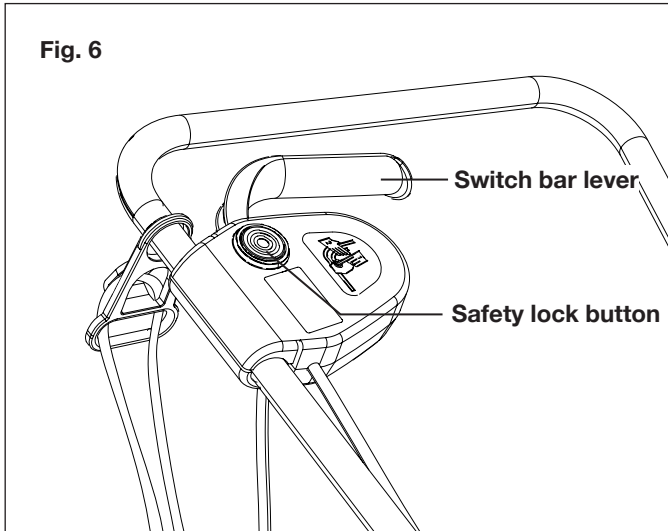

Fig. 6
4. To start the hover blade grass cutter, press and hold the safety lock button while pulling the switch bar lever toward you. Once the machine powers on, release the safety lock button (Fig. 6).
6. To stop the hover blade grass cutter, release the switch bar lever (Fig. 6).